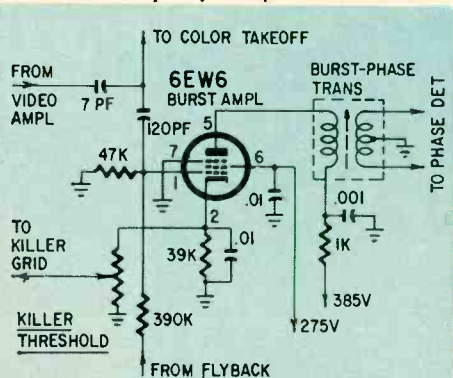

Fig. 1—Burst amplifier amplifies burst only, because it's keyed on grid with a flyback pulse. Input is from video stage.
1. The burst amplifier (Fig. 1). This is a standard pentode tube, with normal plate and screen voltages. The grid is keyed by a pulse from the flyback transformer, so that the tube actually con-